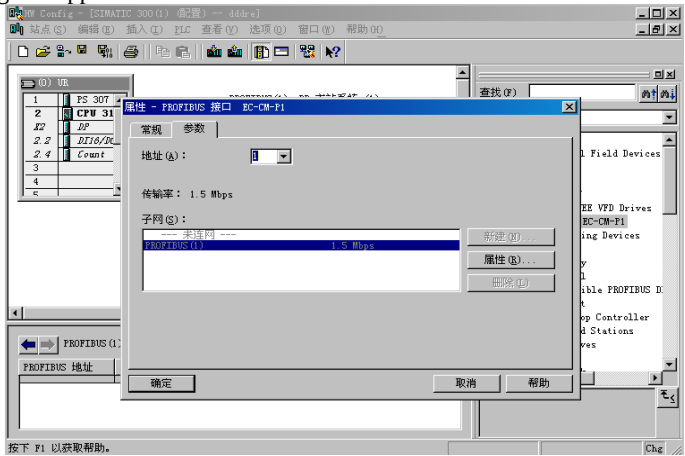

Figure 7-13
10. In Figure 7-13 In the new dialog box that appears, enter the address Select the slave address from the drop-down menu .